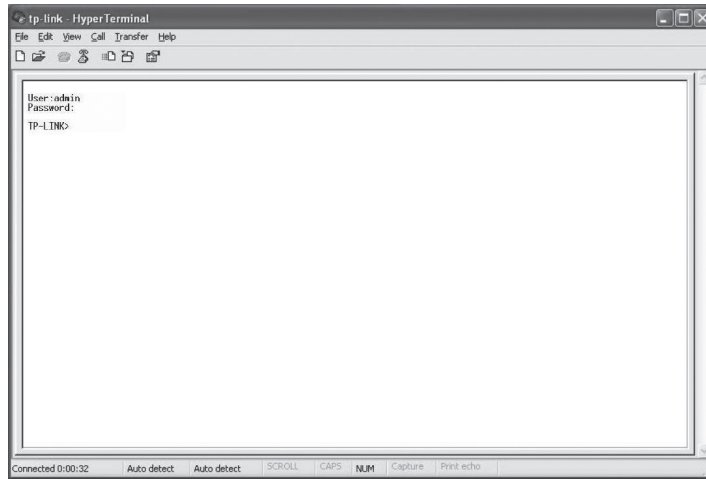

Figure 5-8 Log in the Switch
6. Type the User name and Password in the Hyper Terminal window, the factory default value for both of them is admin. The DOS prompt “TP-LINK>” will appear after pressing the Enter button as Figure 5-8 shown. It indicates that you can use the CLI now.